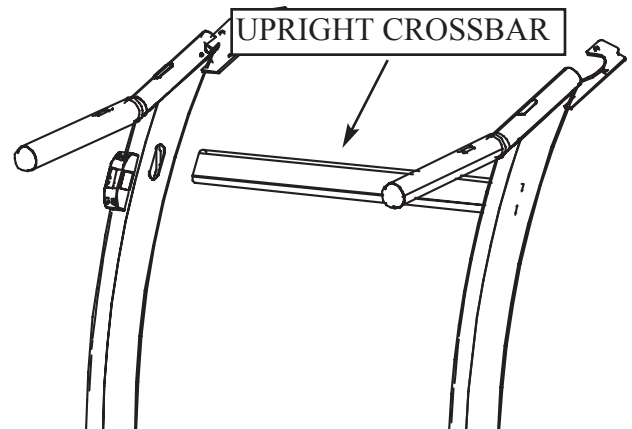

Figure 5: Upright Crossbar Assembly
4. Install the Upright Crossbar Assembly to Left and Right Uprights as shown in Figure 5.